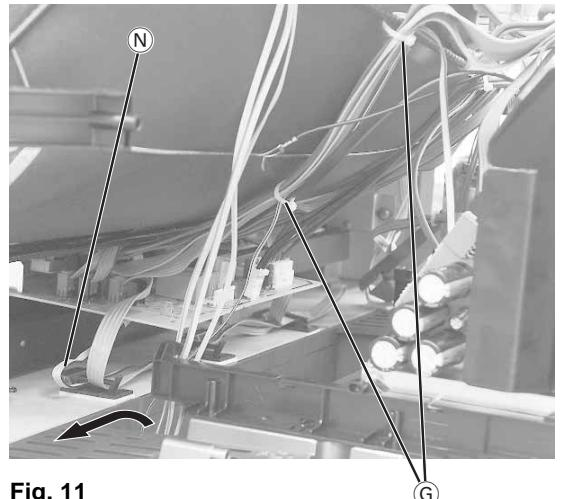

Fig. 11
- If necessary disengage the two cable clamps ⑦ (Fig. 11).
- Route the two Flexprint leads and the 12-core lead in direction of the arrow (Fig. 11) below the DVD drive mechanism.
- Note:** The pre-fitted three-core ribbon cable ⑩ (Fig. 11) must be bent toward the top in such a way (if necessary pull this cable out of the left cable clamp) that it can be connected with the socket "1004" on the eject board after sliding in the DVD drive mechanism.